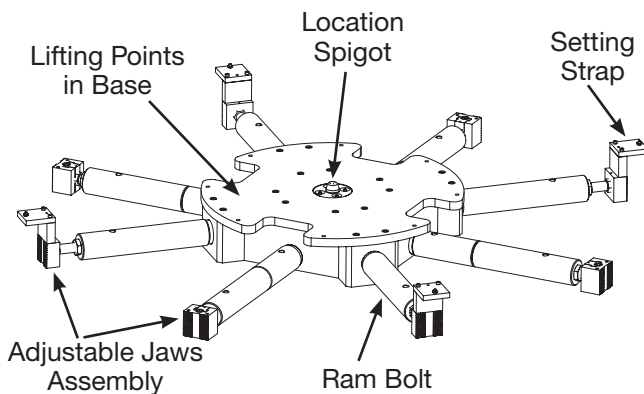

Figure 11: Base example assembly
1. A central location spigot is provided for exact location of the machine, this is fixed to the centre of the machine base. See figure 11.